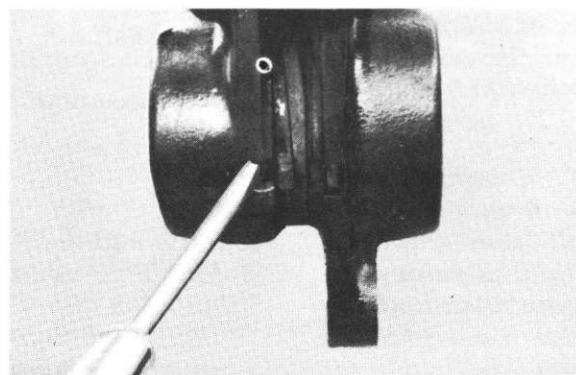

Fig. 5-3-15
- 4) Remove the pads from their seats. (Fig. 5-3-15)
- 4) Retirer les patins de leurs logements. (Fig. 5-3-15)
- 4) Belagklötze aus ihrem Sitz drücken. (Abb. 5-3-15)